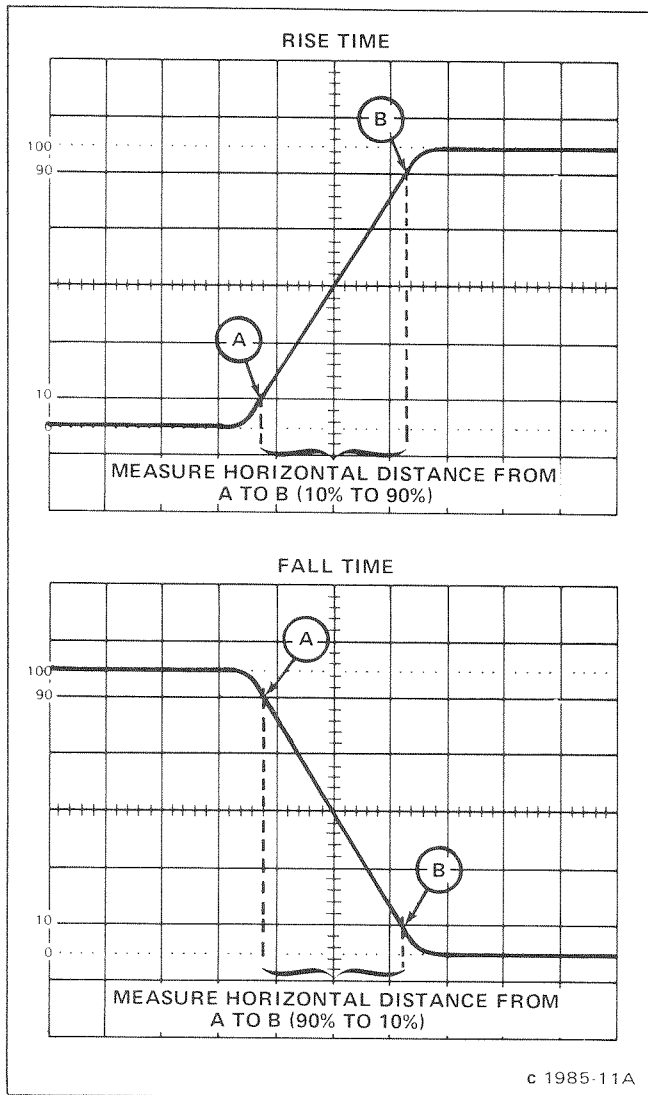

Fig. 2-6. Measuring the rise time and fall time of a displayed waveform.
6. Set the TIME/DIV switch and POSITION control to display the rising or falling portion of the waveform within the center 8 graticule divisions as shown in Figure 2-6 (see General Operating Information in this section for discussion of timing measurement accuracy).
7. Determine rise time or fall time by measuring the horizontal distance in divisions between the point on the rising or falling portion of the waveform that is 10% and the point that is 90% of the total display amplitude (see Fig. 2-6).
Example: Assume that the horizontal distance between the 50% amplitude points is 3 divisions, and the TIME/DIV switch setting is .1  $\mu$ s (see Fig. 2-6).